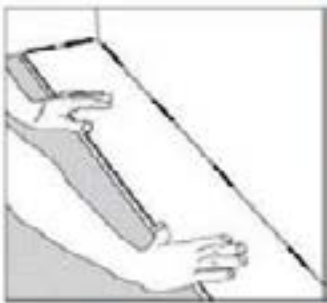

Figure 1
3. Starting from the LEFT with the tongue facing the wall, carefully place the first board in place. *Figure 1.*